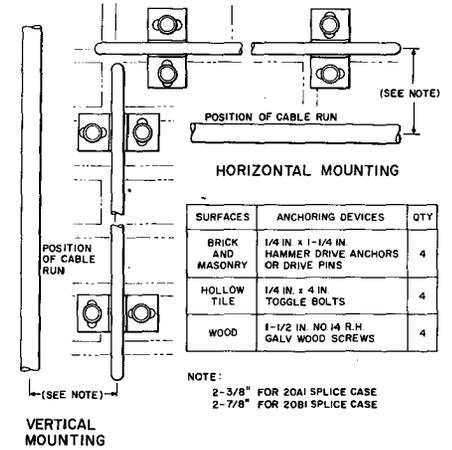

Fig. 6—Surface Anchoring Devices for Terminal and Splice Case Mounting
4.02 Brackets on building walls may be mounted either vertically or horizontally as required. Figure 6 shows vertical and horizontal mountings with the anchoring devices for various surfaces.